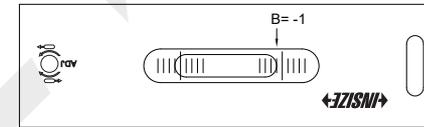

Fig.4
d) After the bubble stops moving, read B on the scale (Fig.4).